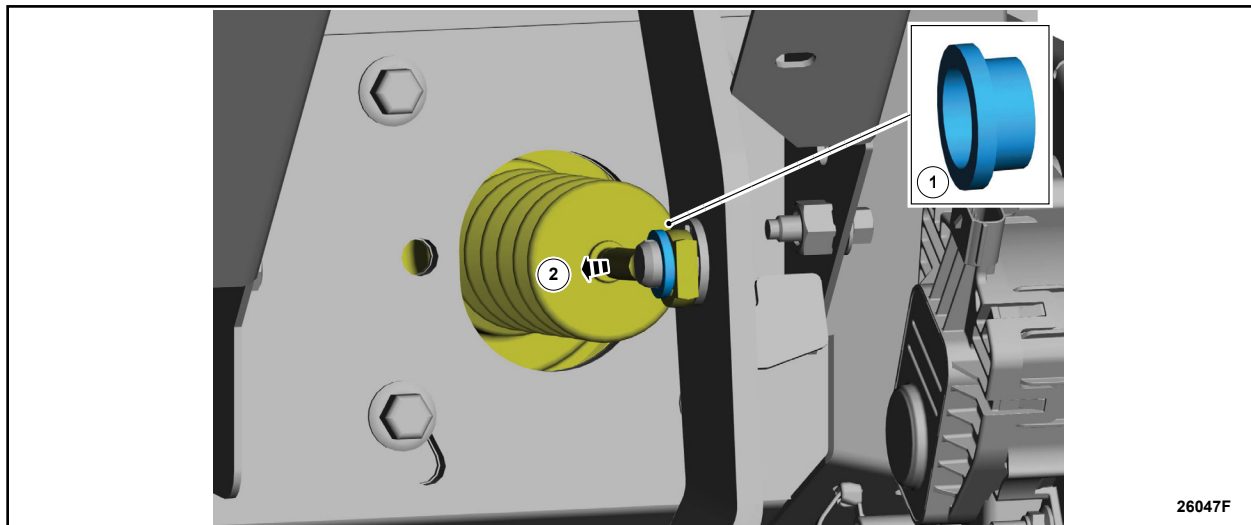

FIGURE 7
15. Remove the brake booster push rod bushing and disconnect the brake booster push rod from the brake pedal arm. See Figure 7.